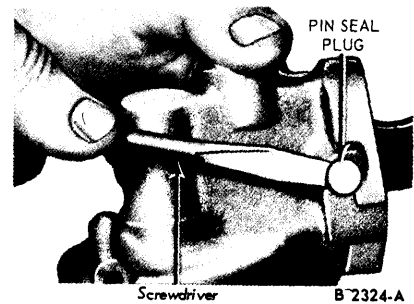

FIG. 2—Rocker Arm Pin Seal Plug Removal
2. Scrape away the staking mark and remove the rocker arm pin seal plug as shown in Fig. 2.